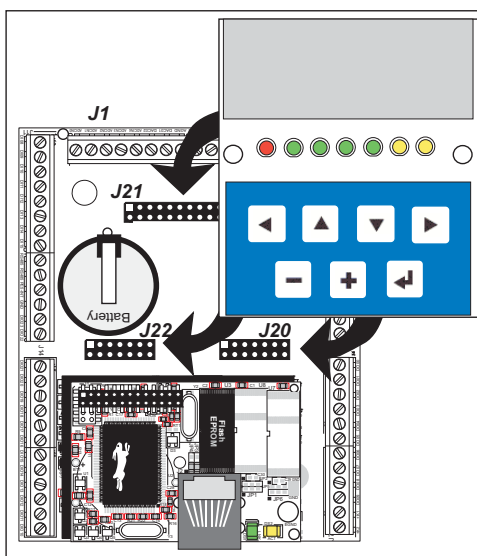

Figure D-4. Install LCD/Keypad Module on BL2100 Main Board
4. Install the LCD/keypad module (optional) as shown in Figure D-4. Be careful to align the pins over the headers, and do not bend them as you press down to mate the LCD/keypad module with the BL2100 main board.